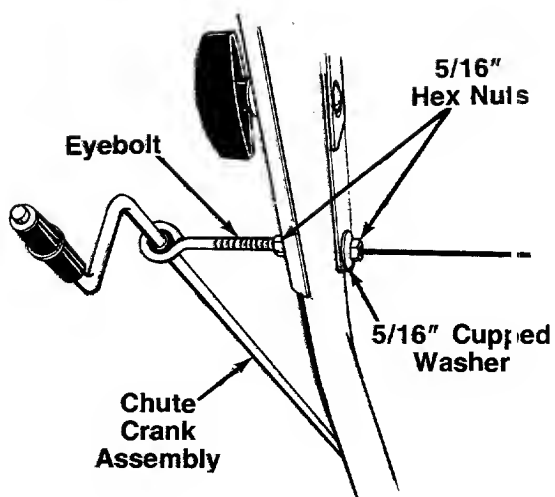

FIGURE 6.
- B. Insert the eyebolt through the lower hole in the left hand side of upper and lower handles and handle panel. See figure 6. Secure with 5/16" cupped washer (cupped side of washer goes against the handle panel) and 5/16" hex nut. Do not tighten at this time.